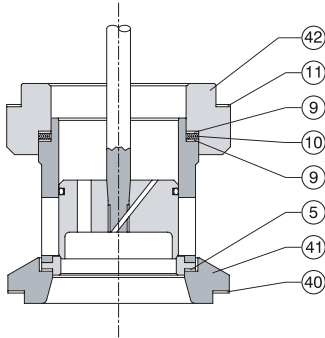

Fig. 4 - Reduced bore
5.1.7 Remove the body gasket (11). For reduced bore (Figure 4), remove the cage adapter (42).
5.1.10 For reduced bore (figure 4), remove the seat adapter (41) and the seat adapter gasket (40).
5.5.2 For bore valves (figure 4), install the seat adapter gasket (40) and the seat adapter (41).
5.5.5 Put the cage gasket (9), spiral wound (10) and body gasket (11) on the cage. For bore valve (figure 4), put the cage gasket (9), spiral wound (10) and another cage gasket (9) on the cage. Assemble the cage adapter (42) and put the body gasket (11) on the cage adapter.